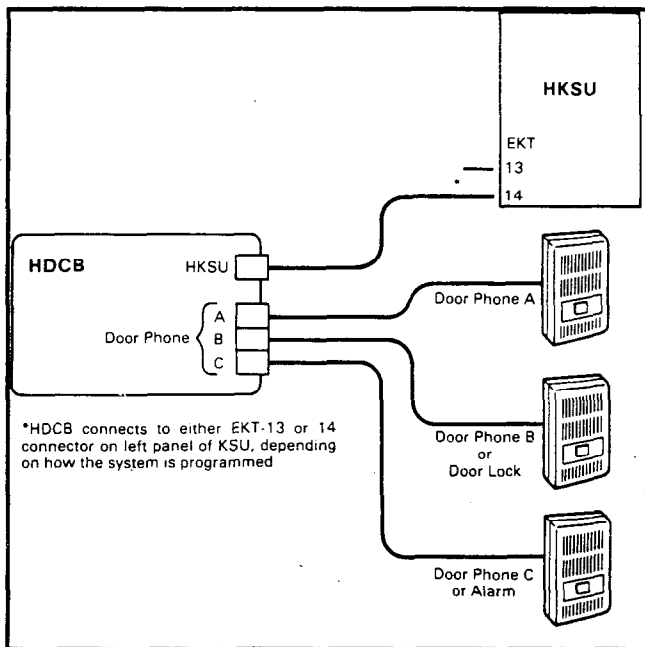

FIGURE 17
06.24 Figure 17 shows the HDCB and MDFB wiring arrangement.